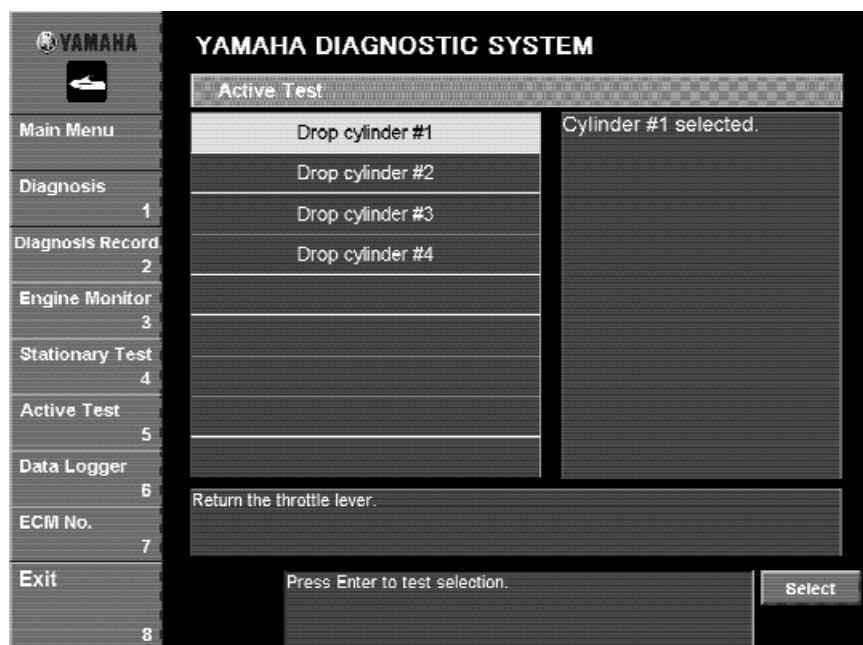

Fig. 55
1. Select which ignition and fuel you wish to cut by either clicking it or pressing the up or down arrow keys on your keyboard (Fig. 55).
2. Click the **Select** button or press the Enter key on your keyboard (Fig. 55).